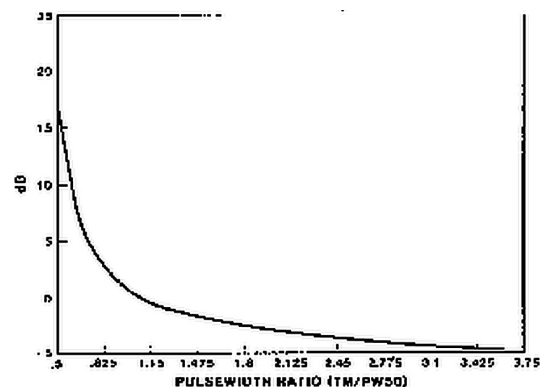

Fig. 3. Figure of merit
An important consideration for an equalizer design involves the change in the signal to noise ratio (SNR) introduced by the equalizer. Here the SNR is defined as the peak signal to the rms noise voltage. The figure of merit (FM) of the filter is the ratio of the input to the output SNR expressed in dB. The computation was done numerically with the input signal being Lorentz, the output signal being Van der Maas and the noise power spectral density was taken directly from a disc. The FM as a function of the ratio TM/PW50 is shown in Fig. 3 where TM is one-half the distance between the zero slope points on the Van der Maas (VDM) time function.